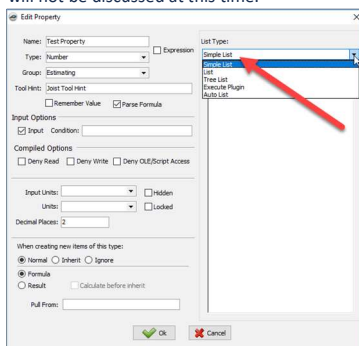

Figure 15
21. Checking the **Formula** checkbox allows the formula and the result to be inherited. Checking the **Result** checkbox allows only the result to be inherited. The **Pull From:** field is not commonly used. It allows you to inherit the actual result from a completely different item from either the same estimate or somewhere else by providing the relative path of that item and the property. The **List Type:** field allows the developer to provide a list that acts as a drop-down list to the property (see Figure 15) but will not be discussed at this time.